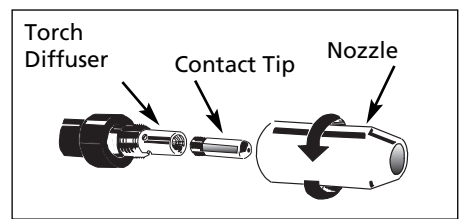

Figure 6 - Torch Nozzle
7. Remove the nozzle by turning counterclockwise. Then, unscrew the contact tip from the end of the welding torch. (See Figure 6.) Plug the welder into the proper power supply receptacle.
9. Carefully slip the contact tip over the wire and screw it into the torch diffuser. (See Figure 6.) Install the nozzle by twisting clockwise. Cut the wire off approximately 1/4 inch from the end of the nozzle.